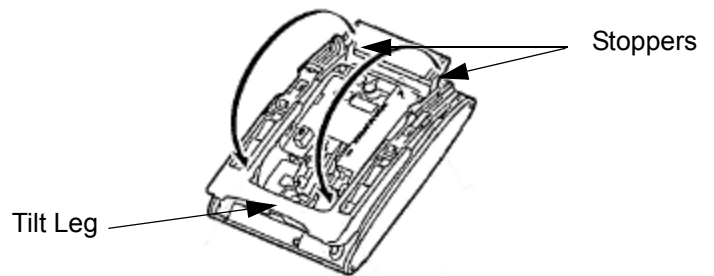

Figure 6-36 Separate Tilt Leg from Leg Support
3. Lower the tilt leg to the first position (refer to Figure 6-36 Separate Tilt Leg from Leg Support on page 6-45).